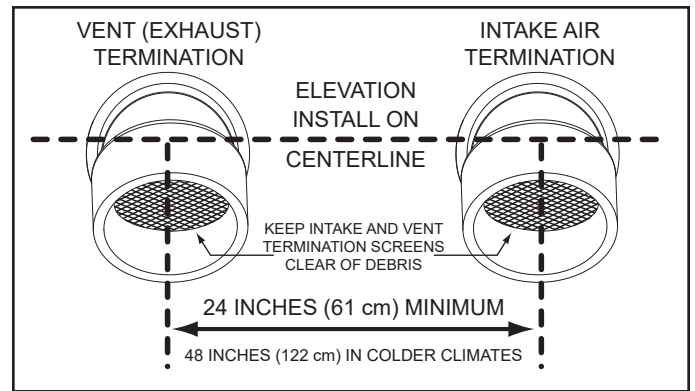

Figure 38. Sidewall Termination - Direct Vent
4. If installing both an intake-air and vent termination in a direct-vent configuration through a sidewall, there must be a minimum of 24 in (61 cm) separation, measured on a vertical center line, between the intake-air and vent terminations. See *Figure 38*.
5. If installing both intake-air and vent terminations in a Direct Vent configuration through a sidewall, the intake-air and vent terminations must be installed at the same elevation, measured on horizontal center line. See *Figure 38*.
However, the distance between the closest vent and intake-air terminations must be a minimum of 24 in (61 cm). In colder climates, this separation should be increased to at least 48 in (122 cm). See *Figure 38* (page 38).